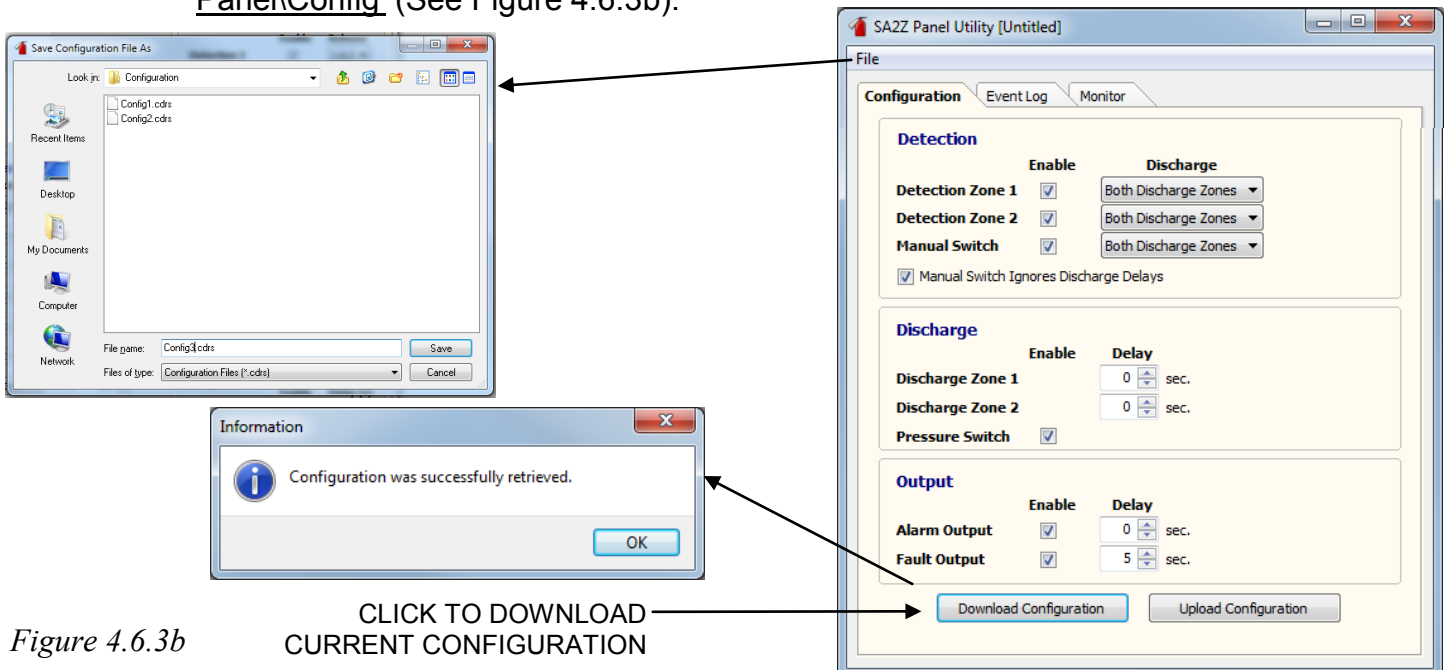

Figure 4.6.3b
**Downloading A System Configuration** - Prior to making any changes to the system configuration, common practice is to download the configuration that currently exists on the SA2Z system. Ensure the PC Interface Cable is connected and the Operator Panel is in programming mode. Open the Amerex SA2Z Utility on the PC. The current configuration can be downloaded to the PC by clicking the ‘Download’ Configuration’ button in the lower left corner of the SA2Z Panel Utility window. A successful download is indicated by an Information window. The downloaded configuration may then be saved on the PC for future use by selecting the ‘File” tab and “Save As”. The default folder in the user’s ‘Documents’ folder is ‘My Amerex Files\SA2Z Panel\Config’ (See Figure 4.6.3b).